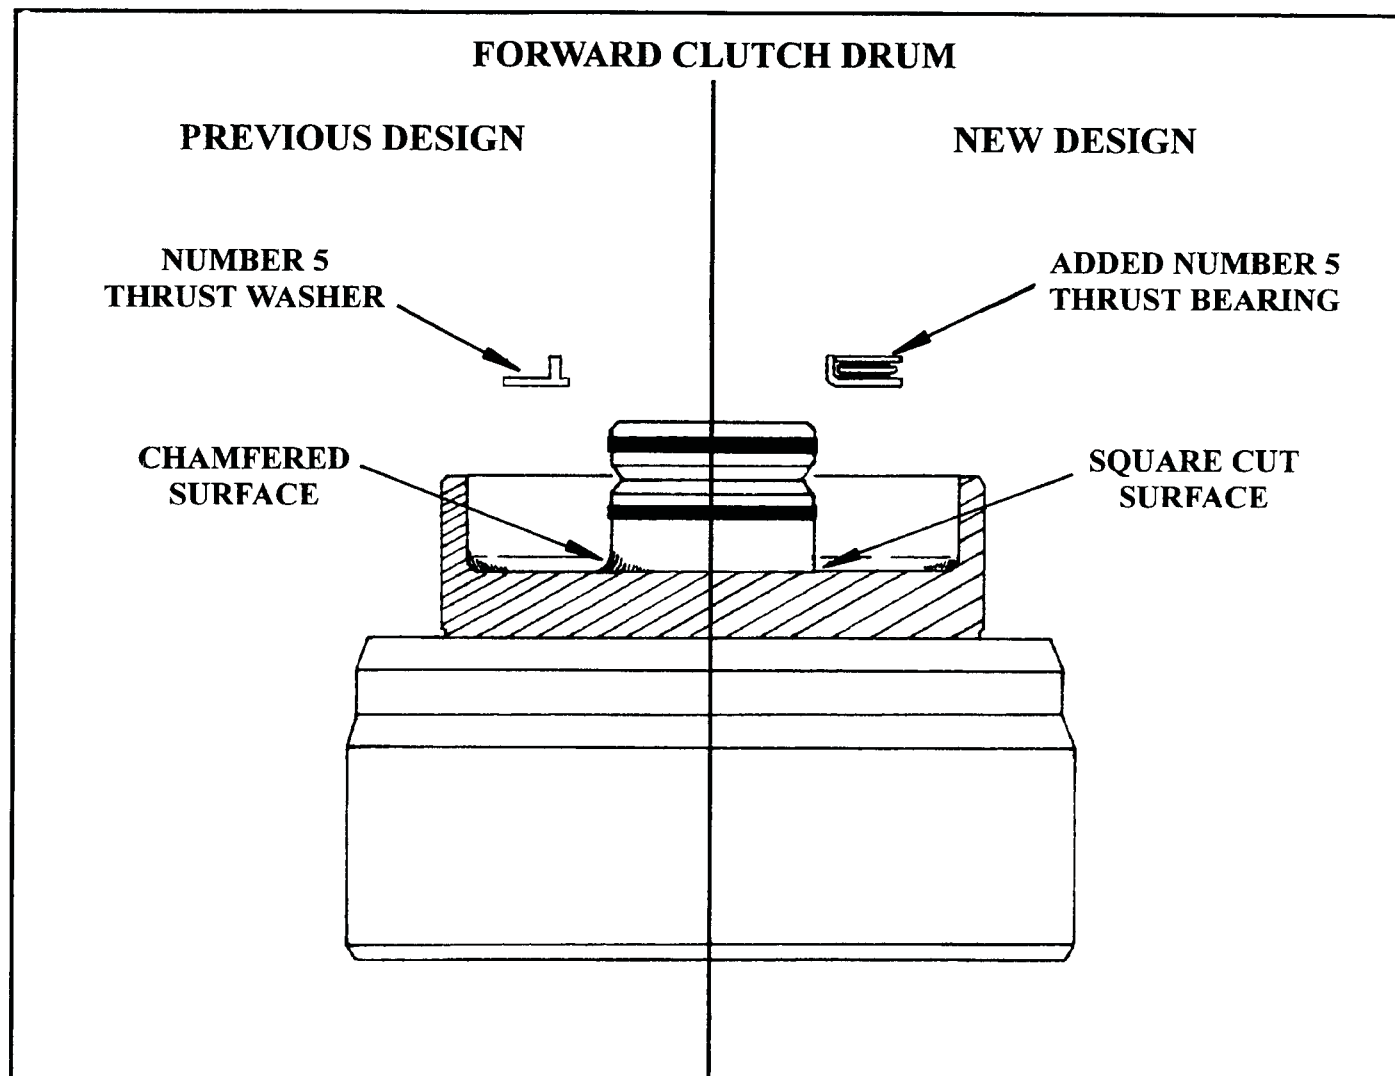

Figure 39
(5) **FORWARD CLUTCH DRUM** - Was machined at the base of the sealing ring hub to eliminate the chamfer, and provide a flat surface to accommodate the added number 5 thrust bearing, as shown in Figure 39.
- (7) The new design forward clutch drum **WILL** retro-fit back on **ALL** previous models. (See Figure 39).
- (8) The previous design forward clutch drum **CANNOT** be used in 1993 and later models, as the chamfered area at the base of the hub will not let the number 5 bearing seat properly (See Figure 39).